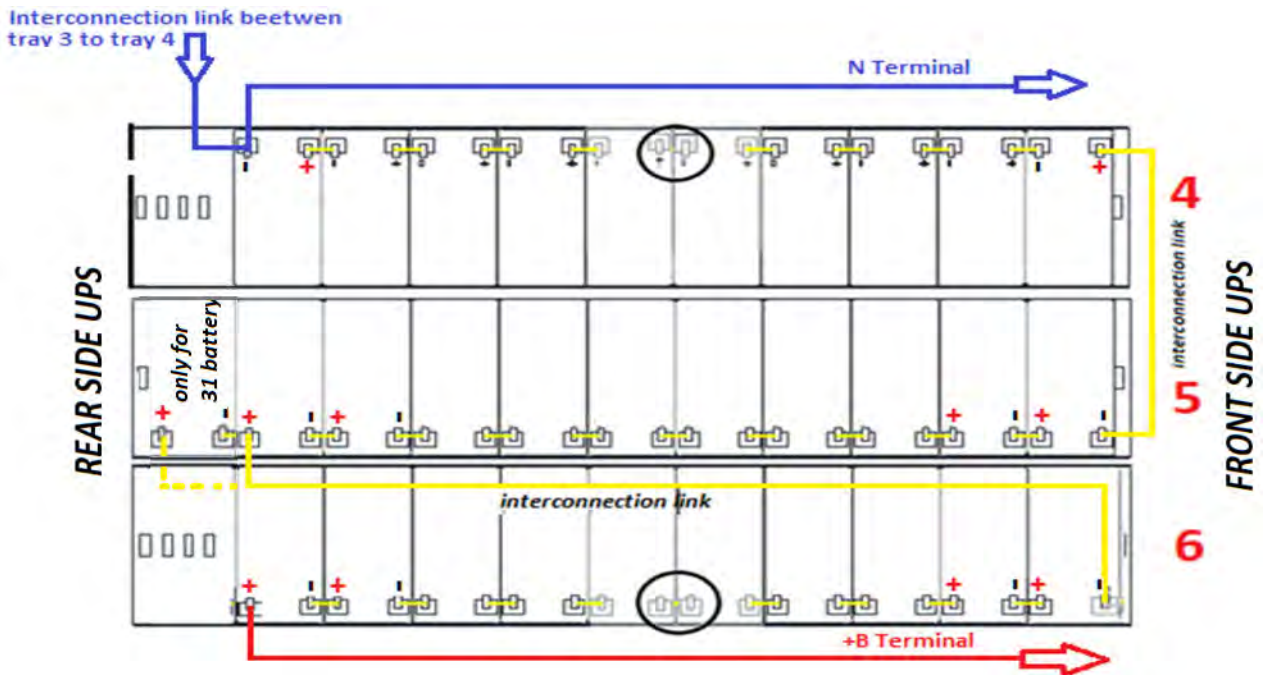

Figure 15 - View from above Level No.2 with battery connections
8) Wire level no. 2 as indicated in Figure 15. **Leave the circle**